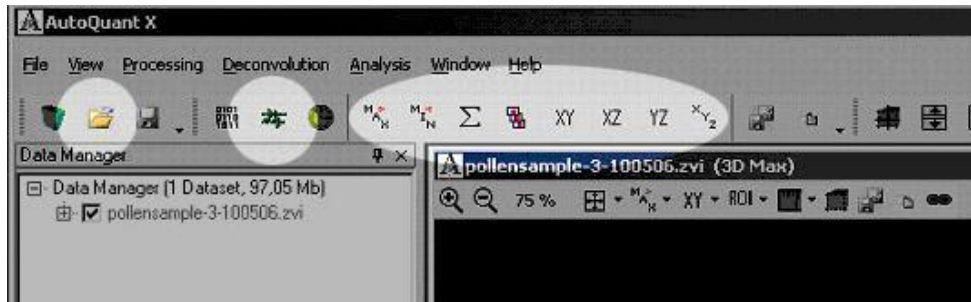

Figure 1. Selections for opening a file, display status, and alternative XYZ view modes.
1. Open your previously saved zvi-file from FILE > OPEN, or use the specific icon on the menu bar (Fig. 1).
2. Browse through your image set by selecting SLICE VIEWER from the main menu bar (Fig. 1). You can also choose different modes to view your data set: Max, Min, or Sum projections, Slice Viewer, and XYZviews.
e. The deconvolution process and the remaining time can be followed choosing VIEW – DISPLAY STATUS (Fig. 1).